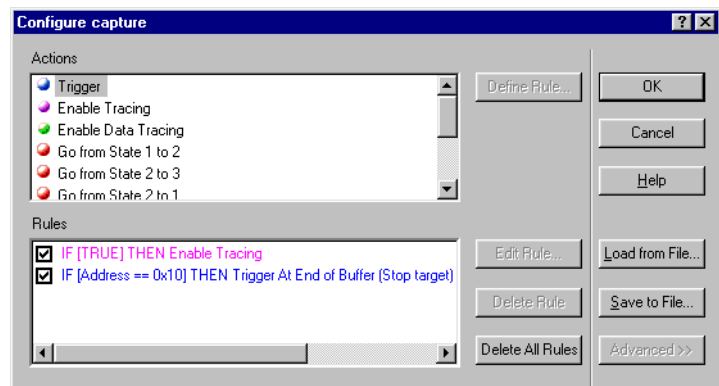

Figure 8-6 Completed Configure capture dialog box
12. Click **Finish** to complete the rule. The Configure capture dialog box shown in Figure 8-6 now has two rules in the Rules list.